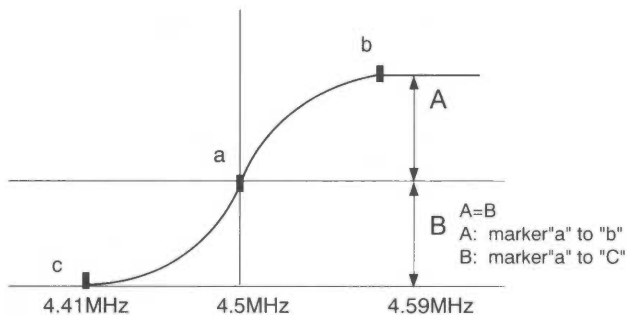

Figure 5
- 5) Adjust SIF coil (L601) so that the "S" curve on the alignment scope becomes as shown in figure 5, and the distance of "A" and "B" may be equal.